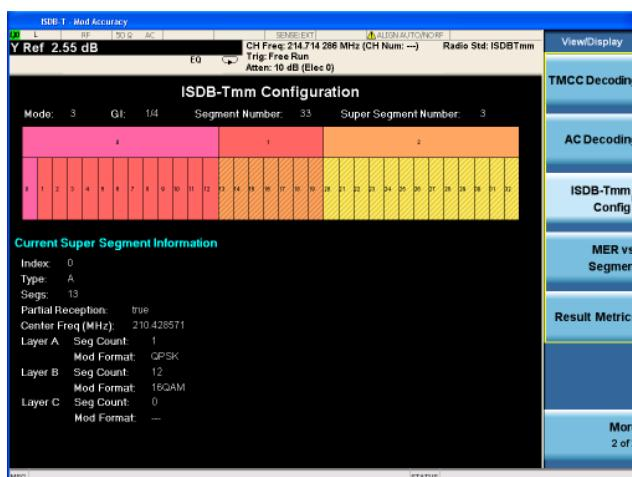

Figure 25. ISDB-Tmm config view for ISDB-Tmm signals
View the frame configuration of the current ISDB-Tmm signal (Figure 25)	[View/Display] {ISDB-Tmm Config}
- **ISDB-Tmm Config** view (Figure 25): This view shows the configurations of each super segment of the ISDB-Tmm signal under test.